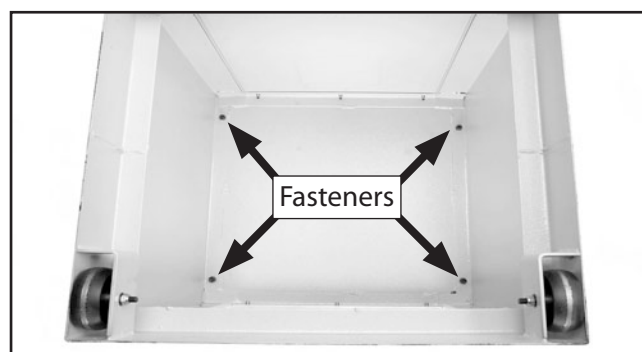

Figure 10. Planer mounted to cabinet (view from underneath planer).
4. Remove the rear panel, align the mounting holes, and secure the planer to the cabinet with the four M8-1.25 x 20 cap screws and lock washers shown in **Figure 10**.